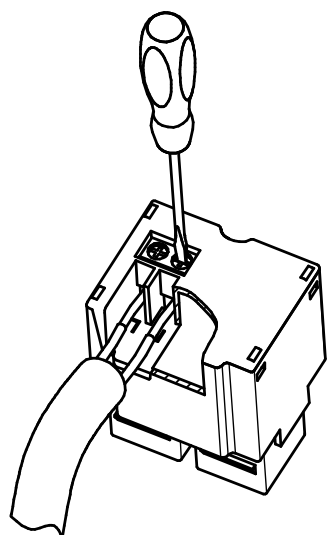

Fig. 2
1. Remove the adapter (2) of the charger by levering it with a knife or a flat screwdriver in the place of the recess (1) on the adapter.
2. Unscrew the screw (3) and pull out the adapter (4) together with the USB charger module (5). If necessary, you can detach the USB charger module from the adapter by pressing the movable catch on the module.
3. Disassemble the intermediate frame (6) from the mounting block (8). To disassemble, bend the cube latches or pull the intermediate frame harder.
4. Install the mounting block (8) in the box (9) using claws or screws at the box (10).
5. Attach the intermediate frame (6) to the outer frame (7) and snap the whole thing onto the latches (8) protruding from the cube.
6. Connect the power cable to the terminal strip of the USB charger module (see Figure 2) respectively, the phase wire under the "L" terminal, the neutral wire under "N".
7. Insert the adapter (4) with the USB charger module (5) into the intermediate frame (6) and screw it to the mounting block (8) using the screw (3).
8. Insert the adapter (2).
The connection to the installation should be done as shown in Figure 2. With improper connection, the charger may be damaged or may work incorrectly.